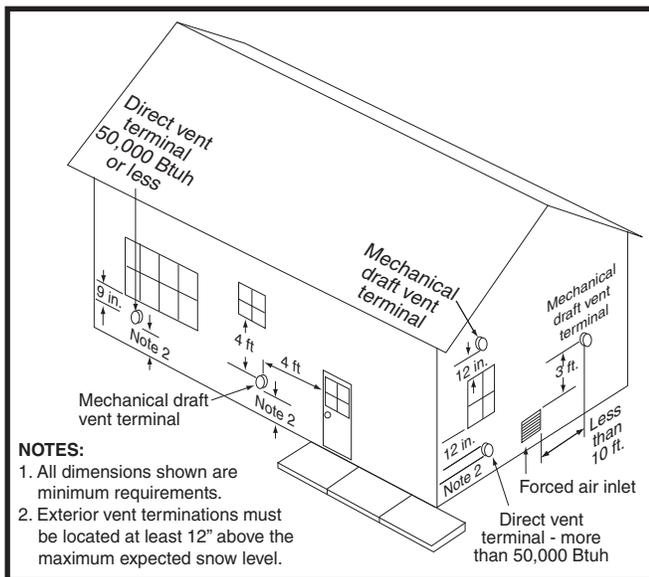

Figure 7. Vent Locations
- All minimum clearances must be maintained to protect building materials from degradation by flue gases as shown in Figure 7.